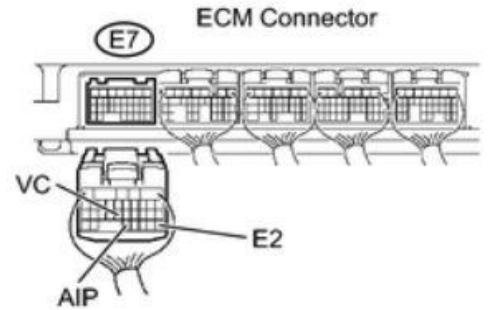

Figure 2 - ECM Connections
- 2) Disconnect Connector E7 as identified in Figure 2.